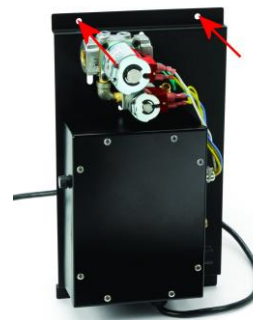

Figure 6.1 – EI Control Mount
3. Mount the EI Control Panel on the outside of the fireplace at least 24" off the ground and in the vertical position, 4 screws (not included). See Figure 6.1.